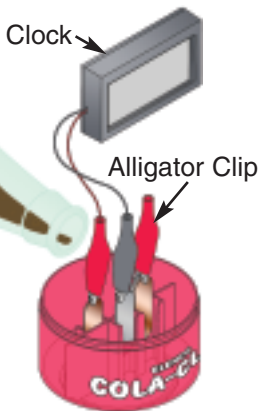

Figure 3
- Connect the alligator clip across the copper and zinc bars by squeezing the end to open the jaws (see Figure 3).
- Clip the red alligator to the single copper bar and the black alligator to the single zinc bar as shown in Figure 3.